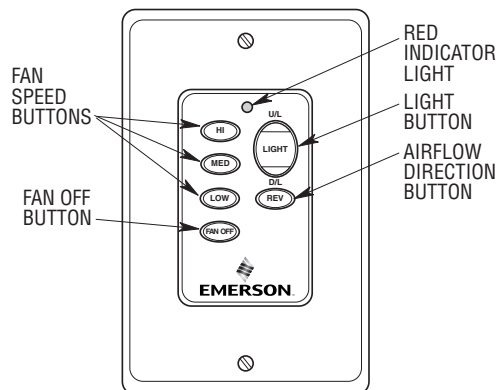

Figure 24
Your SW116 Fan/Light Wall Control (Figure 24) has full control of your fan, lights, and airflow direction.
1. To set the desired fan speed, push the HI, MED, or LOW buttons to operate your fan on high, medium or low speed (See Figure 24).